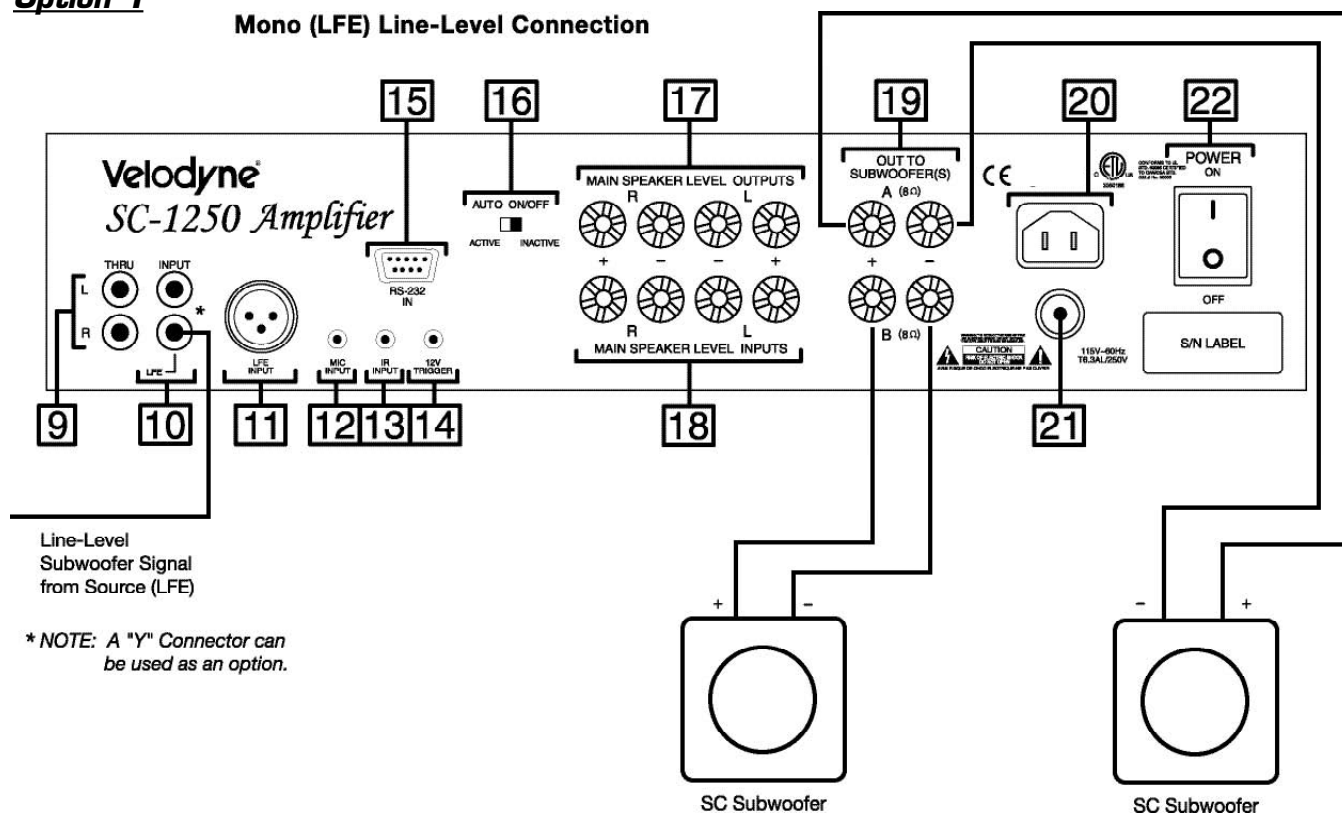

Figure 3A: Mono (LFE) Line-Level Connection.
(9) Thru Jacks (See Figure 3A)
(10) Line Input / LFE Input (See Figure 3A & 3B)